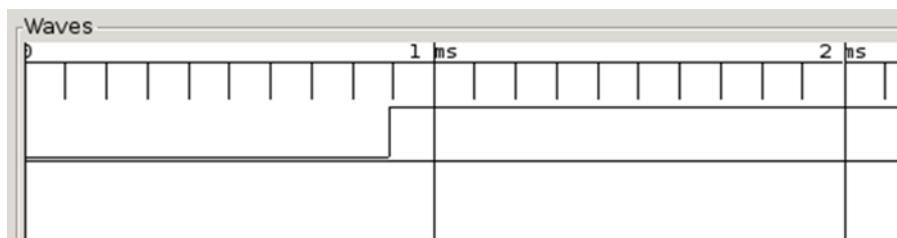

Figure 10-1. Ideal debounced button press
The ideal signal to be seen and read by a GPIO input is shown in Figure 10-1. At rest, the signal is low (reading as 0). When pressed, the signal transitions to high (1) and remains high as long as the button is pressed. Figure 10-1 was a signal captured by PiSpy from a push button employing a debounce circuit.